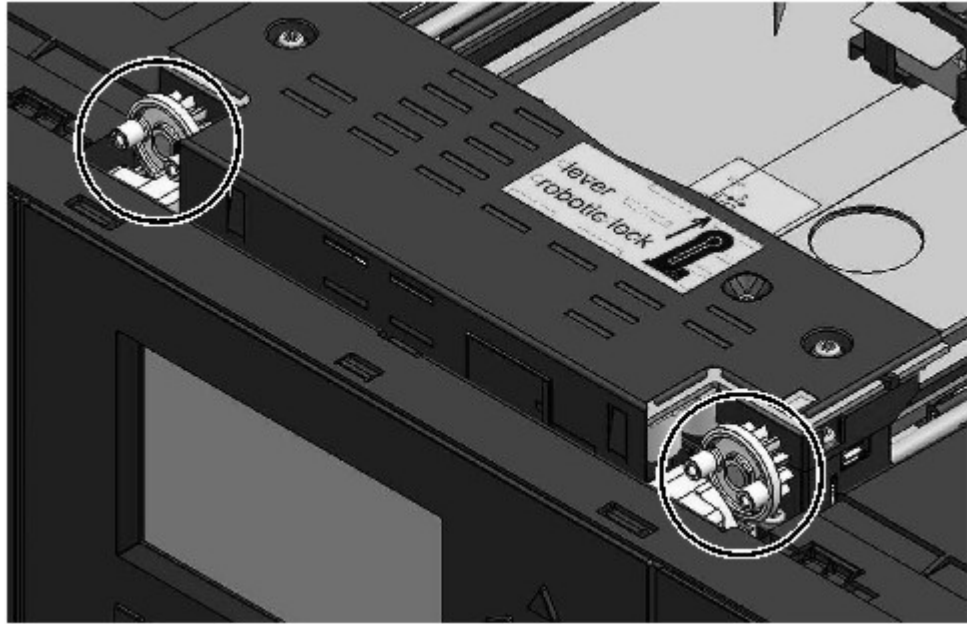

Figure 76. Pins are aligned horizontally
1. Each corner of the accessor has a gear with two protruding pins. Rotate one of the gears on the accessor so that the two pins are aligned horizontally. See Figure 76 on page 139